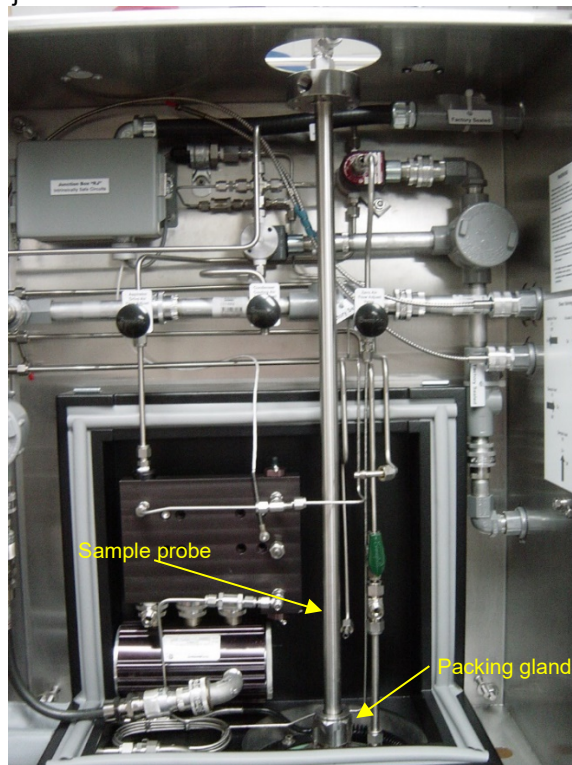

Figure 6: Inserting the Sample Probe
3. Insert the probe into the packing gland at the bottom of the oven indicated in Figure 6 until it reaches the steam jacketed ball valve.